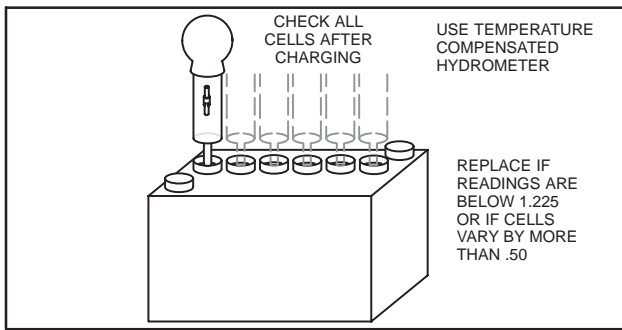

Fig. 20 – Checking 12 V Battery Cells (Lead Acid, Wet Cell, With Fill Caps)
3. With battery fully charged, check specific gravity readings of each cell with a Battery Hydrometer and record readings (Fig. 20). All readings should be above 1.250 (compensating for temperature). If specific gravity readings varied .50 or if all cells read less than 1.225, replace battery.